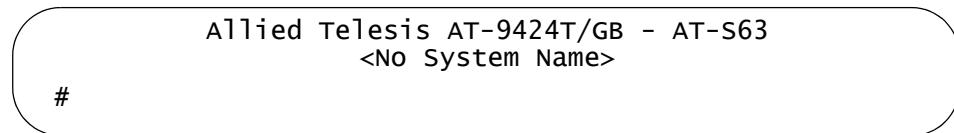

Figure 2. CLI Prompt
6. The local management session starts and the command line interface (CLI) prompt is displayed, as shown in Figure 2.